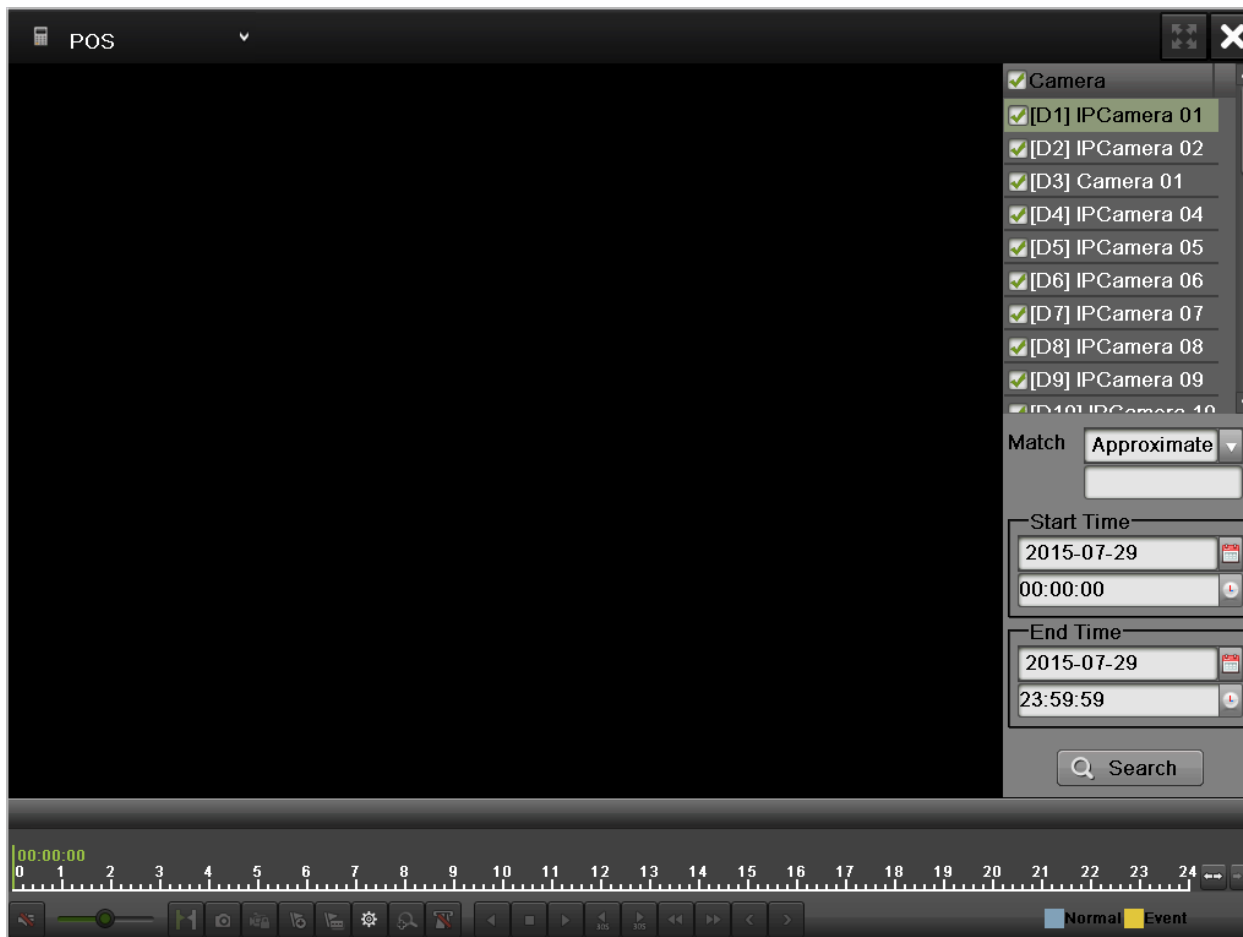

Figure 93 POS interface
1. Enter the POS menu, shown in **Figure 93** by going to Menu > Playback > POS.